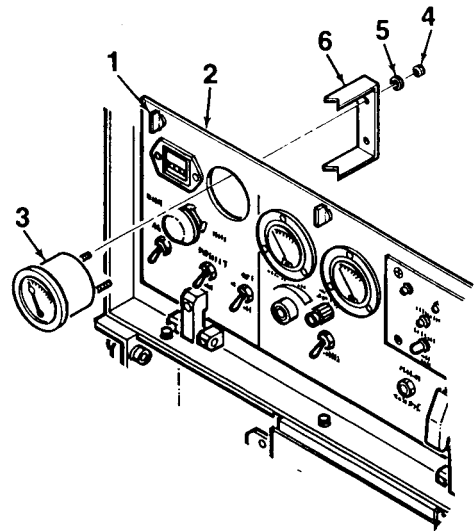

Figure 4-6. FUEL LEVEL Gauge
1. Turn quarter-turn fasteners (1, Figure 4-6) to unlock and open control panel (2).
2. Tag and disconnect electrical wiring from the rear of FUEL LEVEL gauge (3).
3. Remove FUEL LEVEL gauge (3) from control panel (2) by removing two nuts (4), lockwashers (5), and bracket (6).
1. Install FUEL LEVEL gauge (3, Figure 4-6) onto control panel (2) using two nuts (4), lockwashers (5), and bracket (6).
2. Connect electrical wiring to the rear of FUEL LEVEL gauge (3).
3. Close control panel (2) and lock in place using quarter-turn fasteners (1).